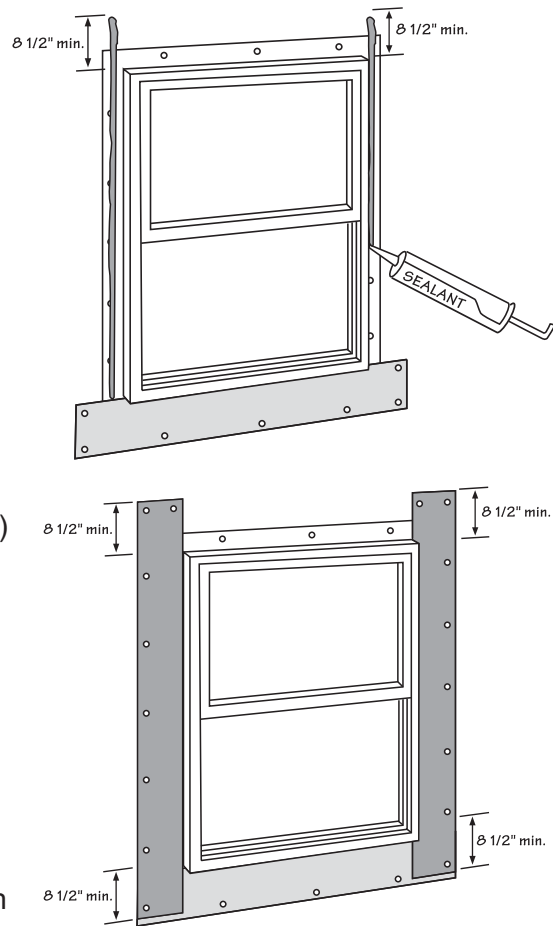

Figure 31.
- Apply a continuous bead of sealant to the nailing flange of the jambs in a manner that covers the nails and nail slots. Continue the bead of sealant at the jambs vertically a minimum of 8 1/2" (216mm) above the head of the window to allow for bedding the top portion of the jamb flashing into sealant in the next step. Install the jamb flashing by pressing the flashing into the sealant beads at the window jambs. Extend the bottom edge of the jamb flashing approximately 1/2" (12.7mm) short of the sill flashing edge, and extend the top edge approximately 8 1/2" (216mm) beyond the head of the window, where the head flashing will be placed next. Fasten the jamb flashing along the edges further most from the window (Fig. 31).